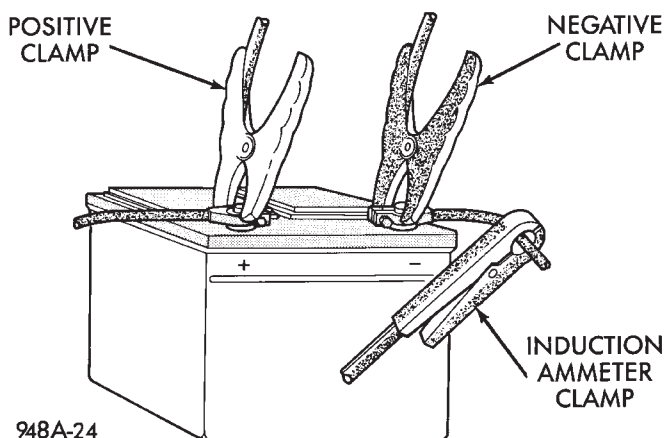

Fig. 1 Volts-Amps Tester Connections - Typical
(1) Connect a suitable volt-ampere tester to the battery terminals (Fig. 1). See the instructions provided by the manufacturer of the volt-ampere tester being used.